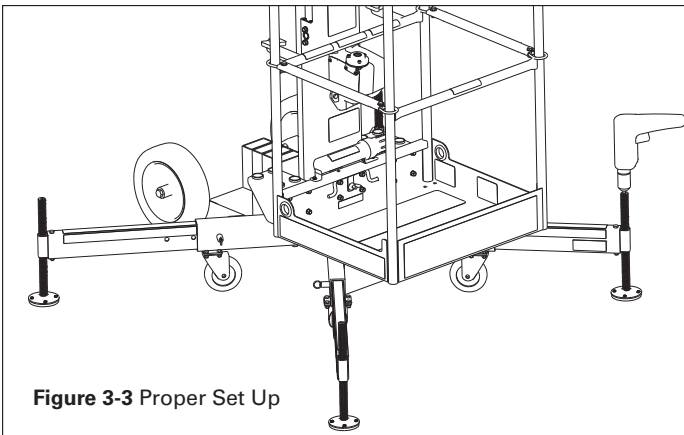

Figure 3-3 Proper Set Up
Before operating the machine, be sure the platform is fully lowered and all four (4) outriggers are properly installed (See Figure 3-3). Be sure the machine is level and on a surface capable of supporting the intended load.